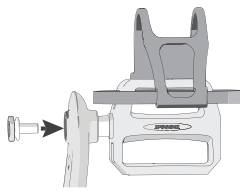

Figure 13
- 3. Secure the pedal using one bolt ❹ (Figure 13) and torque to 33 ft-lb (45 N-m) with the hex key ❷.